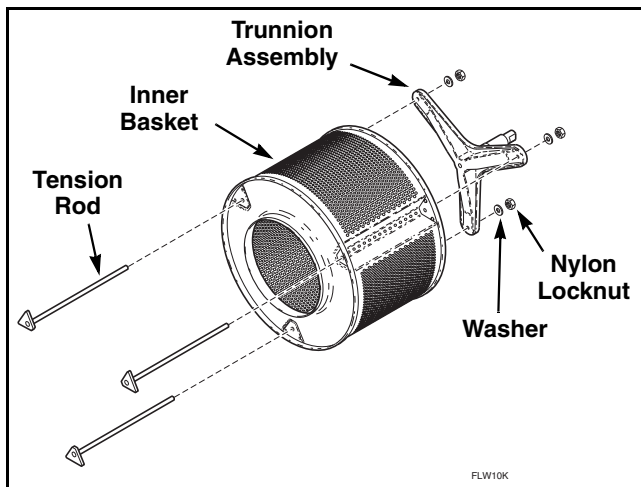
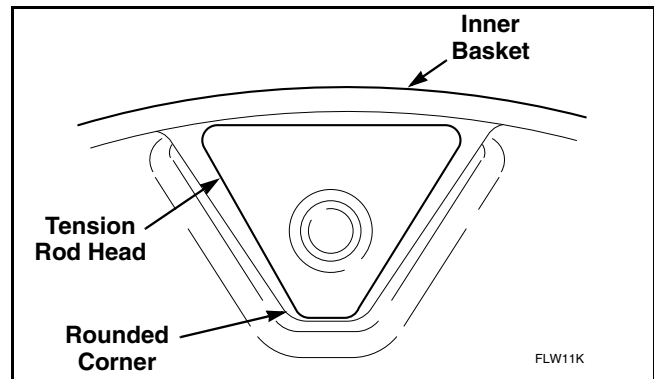

Figure 39
Figure 40
- a. Remove nuts, washers and tension rods holding trunnion to inner basket. Refer to *Figure 39*.
- d. Insert tension rods into inner basket. Refer to *Figure 39*. Position each rod so the rounded corner of triangular head faces the center of inner basket. Refer to *Figure 40*.